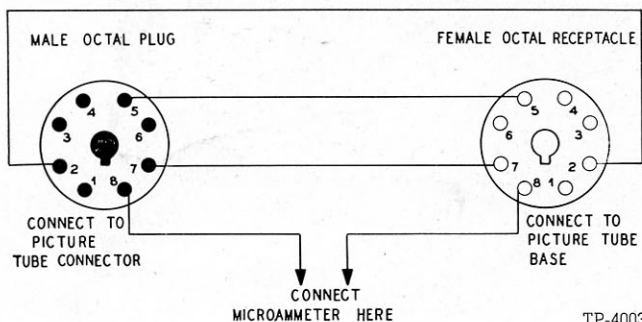

FIGURE 7. Test-Cable Connections TP-4003
20. Unwrap the deflection-yoke cable, and connect a test cable, about 10 inches long, between the base of the picture tube and the deflection-yoke cable connector (see figure 7). Connect a 250-microampere meter to the test leads. See that all tubes and shields are in place.